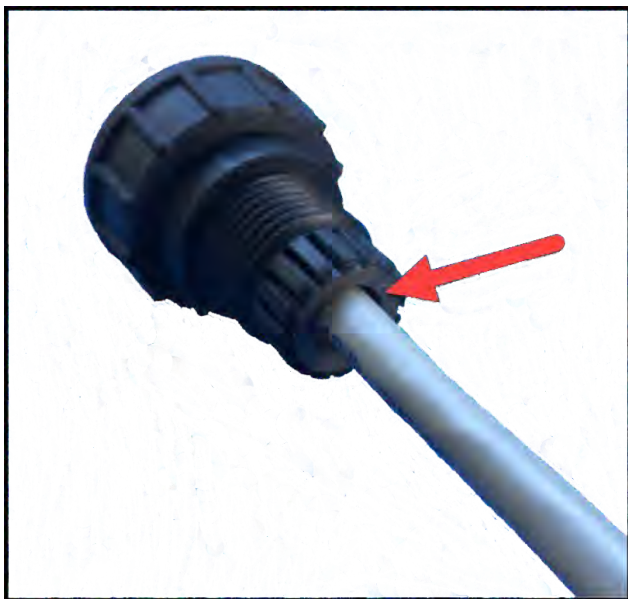

Figure 11: Rubber seal sits inside connector body
- Slide the round rubber seal down the cable so that it sits fully inside the connector body and underneath the plastic fingers (see Figure 11).